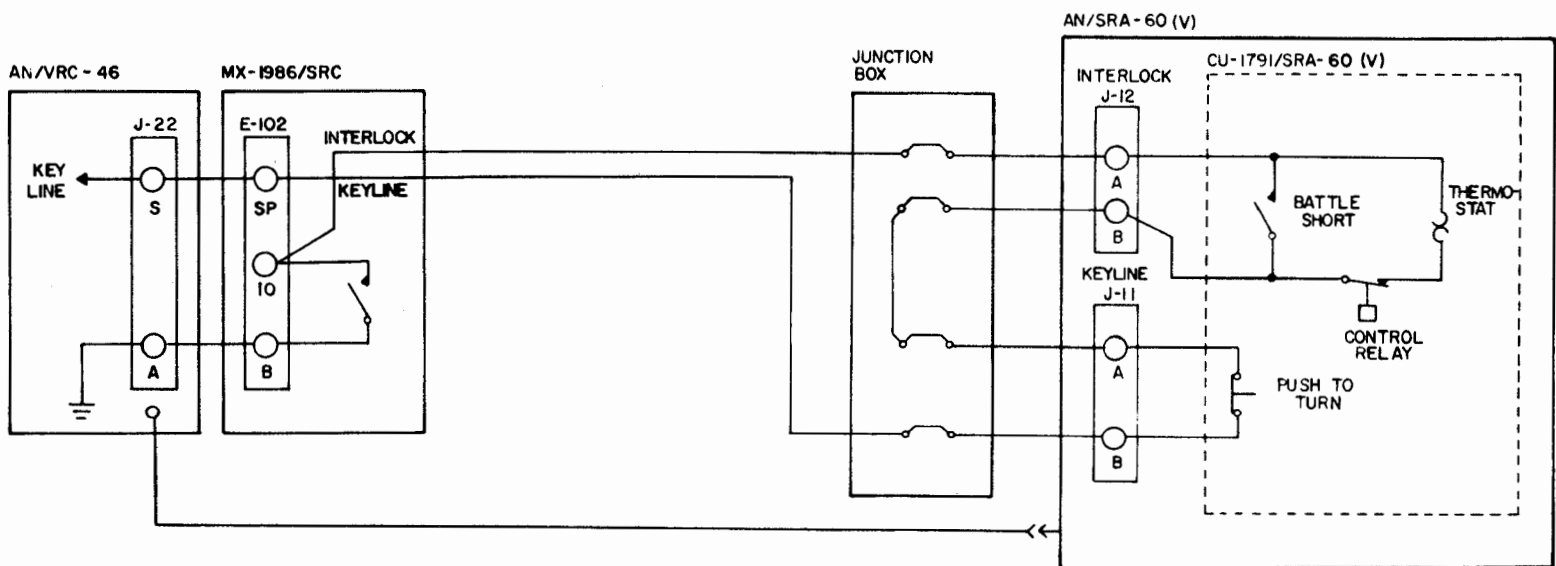

Figure 3-4 Antenna Coupler Group AN/SRA-60 (V)
u. SPECIAL CONSIDERATIONS. - The cabinet is supplied with a 5 inch detachable mounting base. This may be removed and the cabinet mounted directly to the deck when space is restricted. Figure 3-4 outlines the interconnection requirements for the operation of AN/VRC-46 series equipments with the AN/SRA-60 (V).